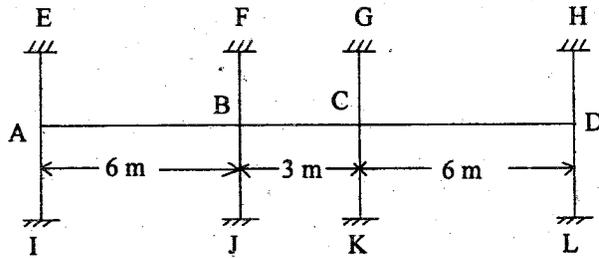

Fig. 2
- (a) The substitute frame shown in Fig. 2 has to be analysed for maximum positive and negative moments in the beam AB and BC. Use the following data to estimate the maximum moments in beams and columns. The beams are spaced at 3.0 m intervals.